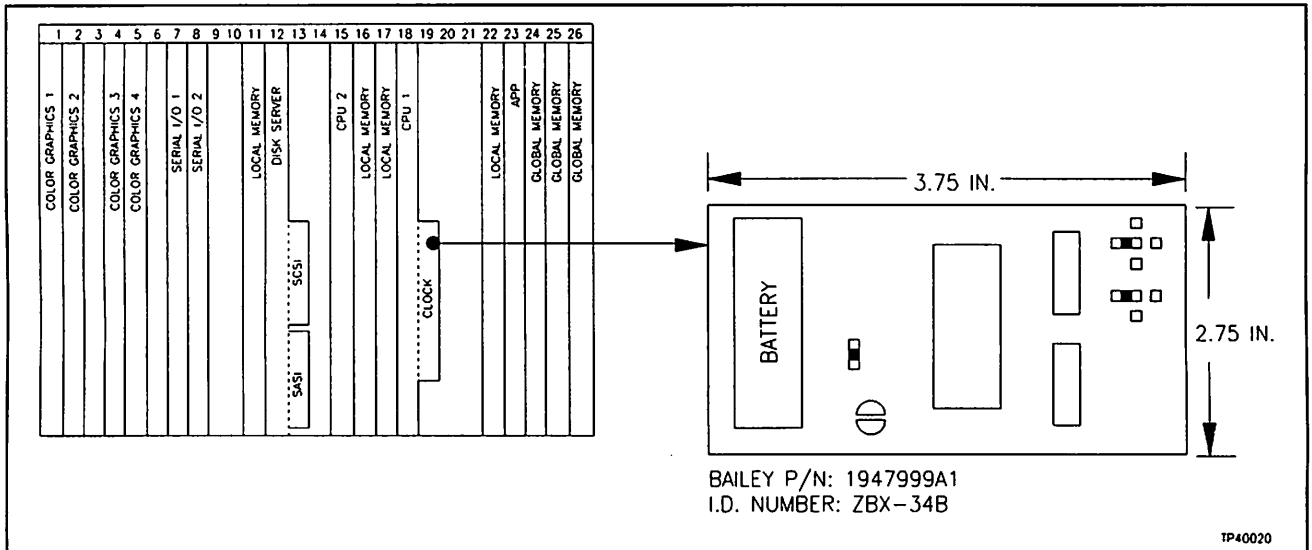

Figure 3-10. Clock Calendar Card
The clock calendar card gives the MCS *real time* capability. This card has an on-board battery if a power backup is ever needed. The clock calendar card, shown in Figure 3-10, resides on the CPU card and occupies physical space allotted to slot 19.
**NOTE:** If the MCS or replacement clock/calendar cards are stored for a duration of one week or more, remove the jumper located next to the battery (Figure 3-10). Failure to do so will result in excessive battery drain.